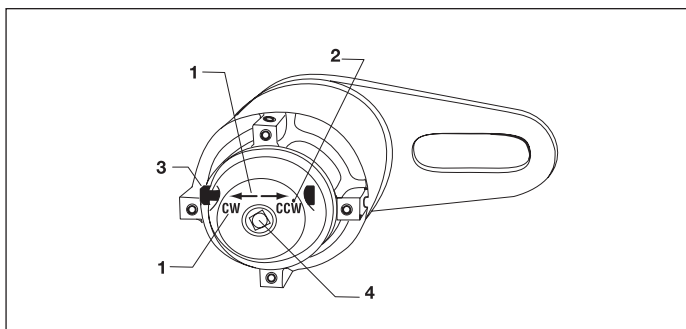

Fig. 3, Input End Detail (shown set for CW rotation)
1. When using a POWER driven input, lock selector pawl in neutral position using the neutral positioning set screw (Fig. 3 Item 2).
Selector pawl (Fig. 3, Item 3) must be set in neutral position and the neutral position set screw (Fig. 3, Item 3) must be tightened to lock the selector pawl for power drive unit operation. It controls the torque multiplier's rotational direction for manually-applied input. (Not available on E290+, E291, E391 models). Do not use impact wrench for power driving, damage to multiplier power train will result.
2. Set desired rotation direction by pushing the selector pawl (Fig. 3, Item 3) in the direction indicated by the letters and directional arrows stamped on the input end case (Fig. 3, Item 1). EXAMPLE: "CCW" for counter-clockwise rotation, push pawl to end of travel in the direction shown by the "CCW" arrow. For clockwise rotation, push pawl in the opposite "CW" direction. (Not available on E290+, E291, E391 models).
Anti-backlash models: using a torque wrench, apply enough input torque to release internal anti-backlash device; maintain torque input and push selector pawl (Fig. 3, Item 3) into opposite position (EXAMPLE: Pawl set in "CW" position requires reset to "CCW" position). Slowly relax input torque. (Not available on E290+, E291, or E391 models).
Use an approved **non-impact** power drive with models: (E391, E392, E393, E492, E493, E494 or E495 only). **Lock selector pawl in Neutral** position by centering between the "CW" and "CCW" positions and tightening the set-screw (fig 3, Item 2).